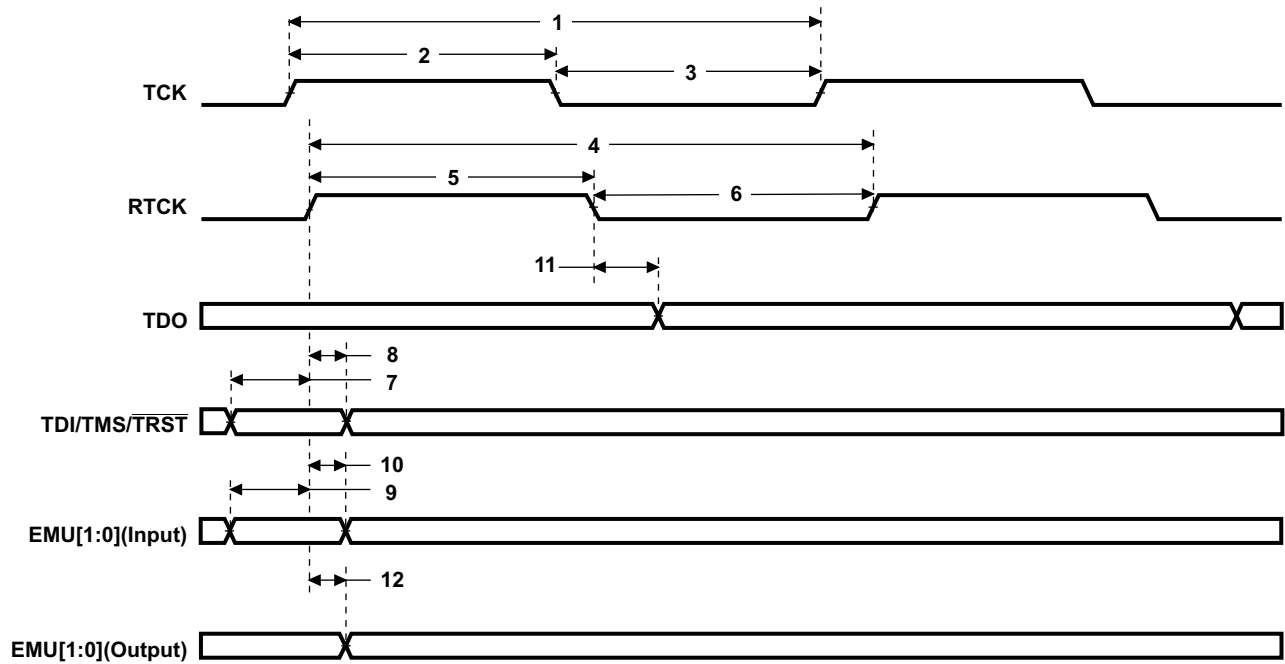

Figure 7-97. JTAG Test-Port Timing
Table 7-150. Timing Requirements for JTAG Test Port^{(1) (2)} (see Figure 7-97)
Table 7-151. Switching Characteristics Over Recommended Operating Conditions for JTAG Test Port⁽¹⁾ (see Figure 7-97)